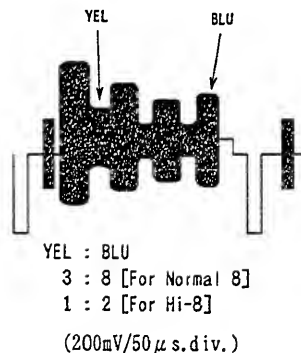

Fig. 2-19
### (3) Matrix Adjustment (Fig. 2-19)